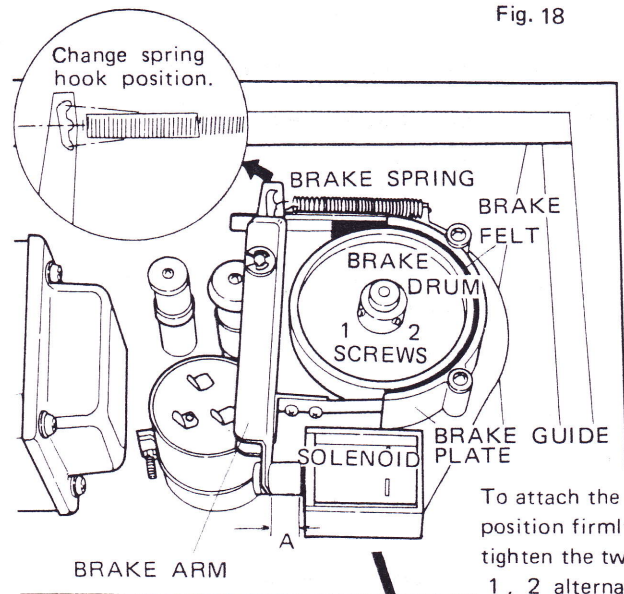

Fig. 19
- Is A in Fig. 19 12.8mm when the solenoid is not operating?
• Adjustment (Figs. 19, 20)